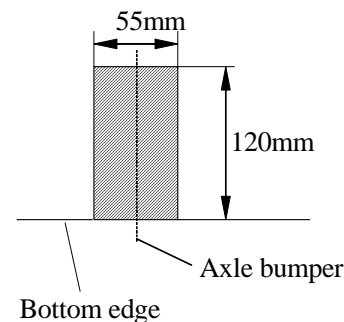

Fig. 2
3. Mount towbar unit: fix loosely elements pos. 4 with main bar of the towbar (pos. 1) using bolts M16x120mm (pos. 6).
4. Put towbar unit in disassembled reinforcement place, in this way so towbar's holes tally with original holes. Fix using bolts M14x1,5x70mm pos. 7 or M12x1,5x70mm pos. 8 (depending on size of holes prepared by car's manufacturer). Remember about distance sleeves $\varnothing 25 \times \varnothing 15$, L=28mm (pos. 5).
5. Assemble bumper after cut out his fragment (see fig. 2).